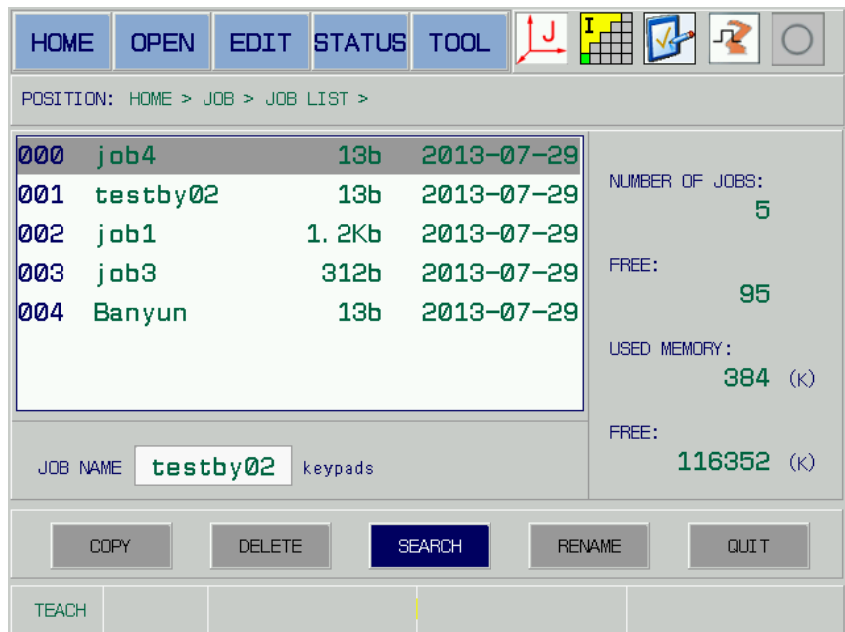

Fig. 5-16
3. Shift cursor to the button area by [TAB], then move the cursor to the [Search] button matching with the left/right direction button; refer to the Fig. 5-16.